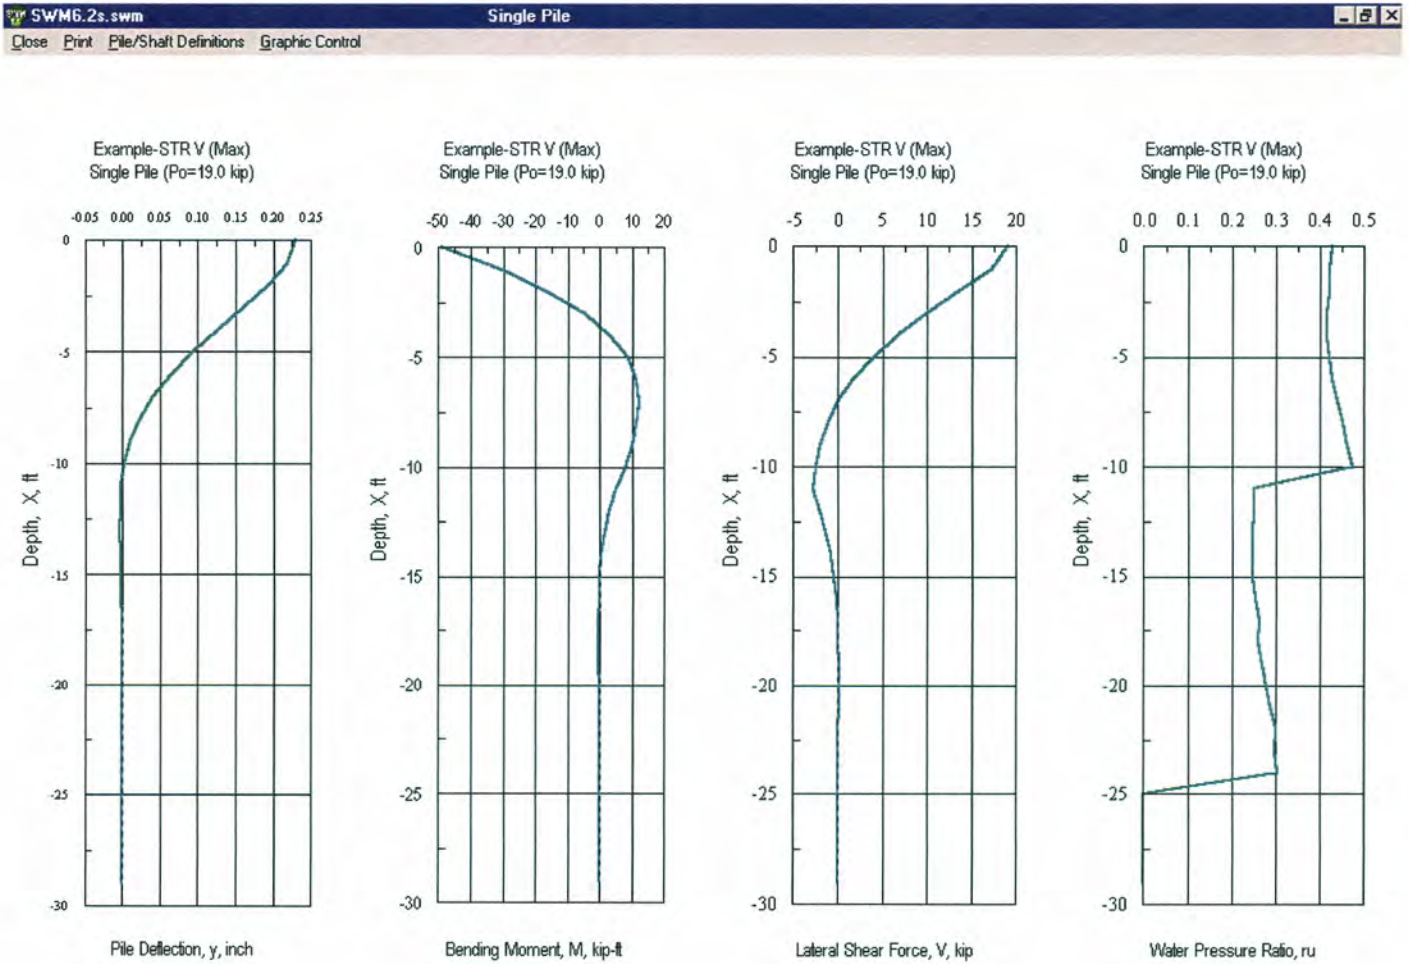

Fig. 20b Lateral Deflection, Moment, Shear Force, and Water Pressure Ration ( $r_u$ ) along the Pile Length at the Given Loads (Case of Soil Liquefaction)
- Lateral Deflection, Bending Moment, Shear Force, and Excess pore water pressure ratio ( $r_u$ ) in liquefied soil [Fig. 20b] (in case of soil liquefaction).